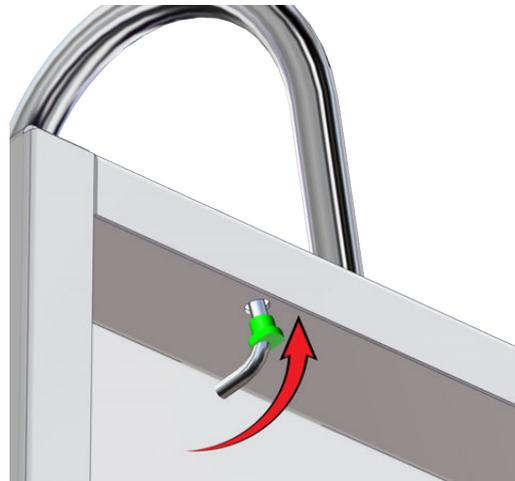

Fig. 9: Secure spout with bushing
3. Reinstall the bushing onto the spout from inside the cabinet (Fig. 9).